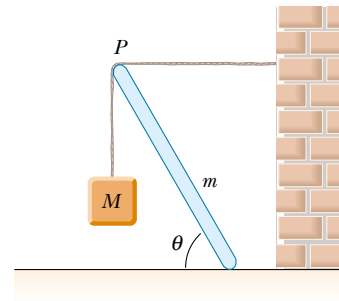

Figure P12.57
57. A uniform beam of mass m is inclined at an angle θ to the horizontal. Its upper end produces a 90° bend in a very rough rope tied to a wall, and its lower end rests on a rough floor (Fig. P12.57). (a) If the coefficient of static friction between the beam and the floor is μ_s , determine an expression for the maximum mass M that can